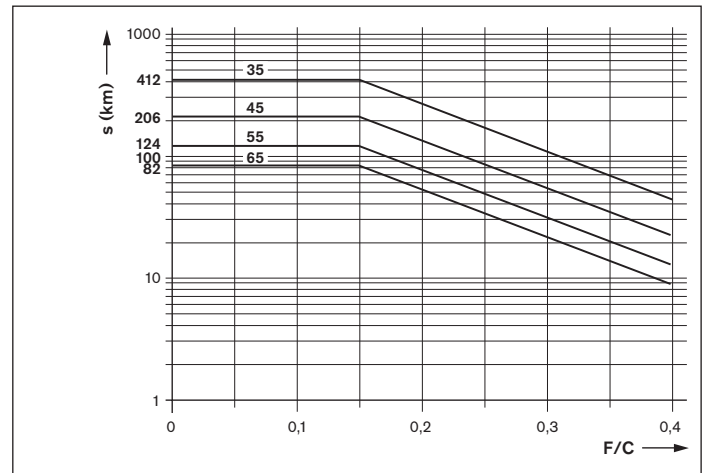

Fig. 2: Relubrication interval
- ▶ Apply the minimum quantity according to Table 4 to the lube port until the relubrication interval as specified (in Fig. 2) has been reached.
- ▶ Apply the minimum quantity according to Table 4 per lube port until the relubrication interval as specified (in Fig. 2) has been reached. Calculate the required pulse count and lubricant cycle time in the same way as for relubrication (normal stroke).
Notes: The required pulse count is the quotient (as a whole number) of the minimum relubrication quantity according to Table 4 and the selected piston distributor size according to Table 5. The smallest permissible piston distributor size is independent of the mounting orientation. The lubricant cycle time as per Formula 1 can then be obtained by dividing the relubrication interval (according to Fig. 2) by the calculated pulse count (see design calculation example).